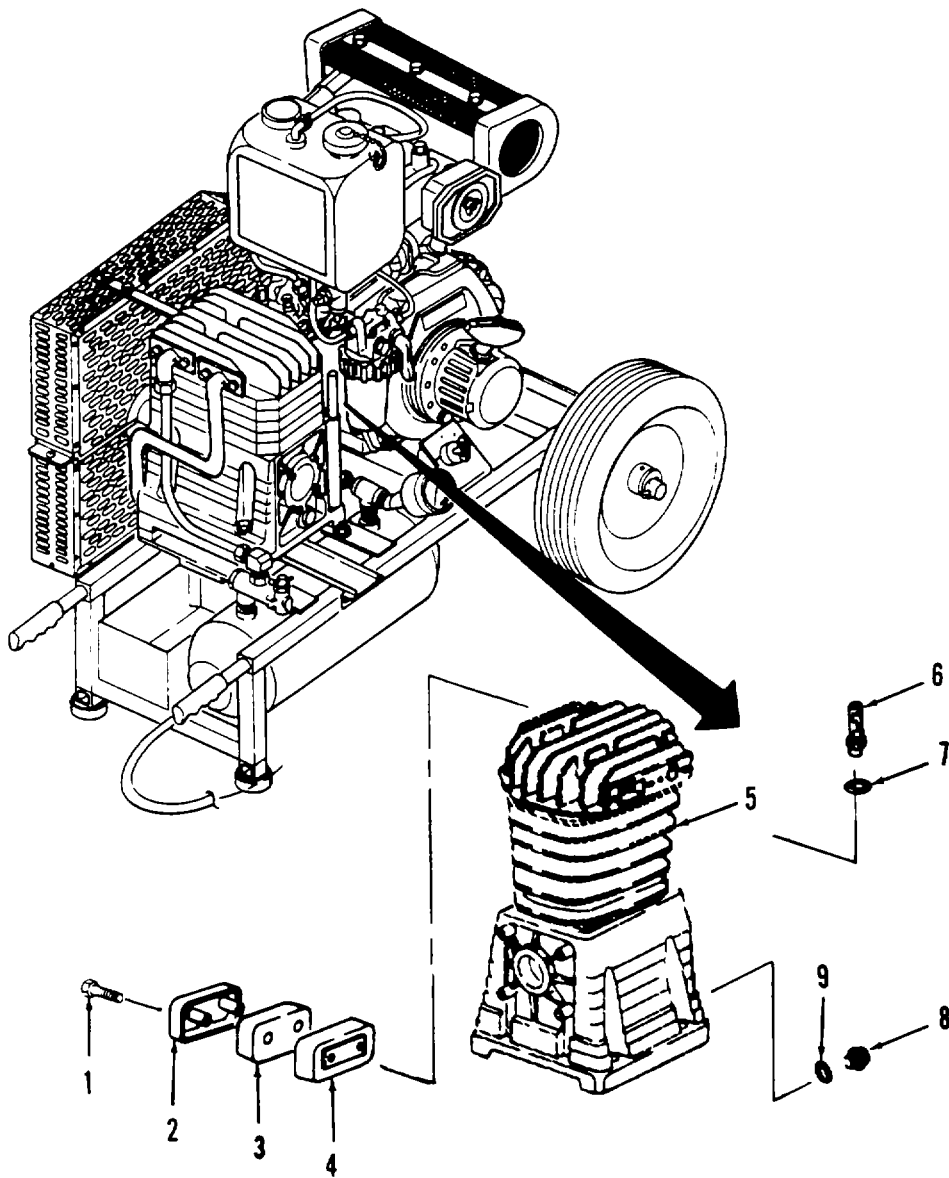

Figure 4-22. Filter Assembly, Oil Filler/Breather, and Sight Glass Replacement.
a. Removal. (Refer to Figure 4-22).
(1) Remove two screws (1), filter cover (2), filter element (3), and filter holder (4) from compressor (5). Discard filter element.
(2) Remove oil filler/breather (6) and O-ring (7) from compressor (5).
(3) Remove sight glass (8) and gasket (9) from compressor (5).